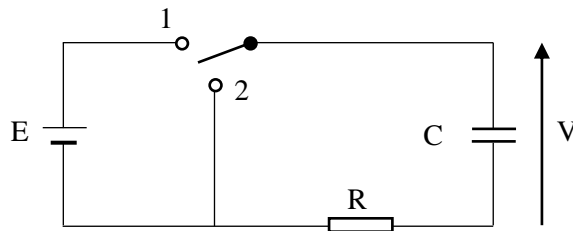

Figure 4.1. Electrical circuit for studying the charging and discharging of a capacitor.
Consider the series circuit (figure 4.1). The capacitor is initially discharged. To charge the capacitor, we supply the circuit with electrical current by turning the switch to position 1.
- 1- Assemble the circuit as shown in the figure 4.1.